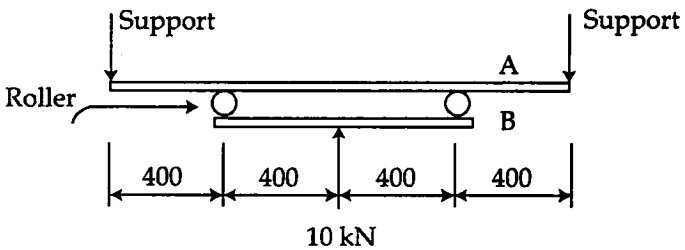

Fig. 3
3. Fig. 3 shows beams A and B loaded by a single concentrated load 10 kN and supported at ends of beam A. If width of both beam cross-sections (rectangular) is 30 mm, find depth of sections of A and B if both are made in the same material which has allowable bending stress of  $90 \text{ N/mm}^2$ . 14